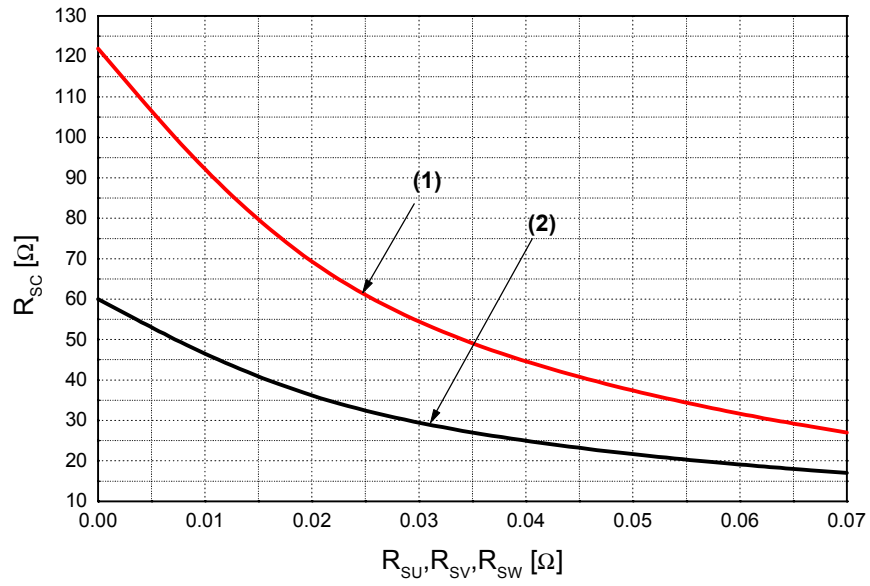

Fig. 6. R_{SC} Variation by change of Shunt Resistors (R_{SU}, R_{SV}, R_{SW}) for Short-Circuit Protection
5. Short-circuit current protection is functioning only at the low-sides. It would be recommended that the value of the external sensing resistor (R_{SC}) should be selected around 60 Ω in order to make the SC trip-level of about 30A at the shunt resistors (R_{SU}, R_{SV}, R_{SW}) of 0Ω. For the detailed information about the relationship between the external sensing resistor (R_{SC}) and the shunt resistors (R_{SU}, R_{SV}, R_{SW}), please see Fig. 6.